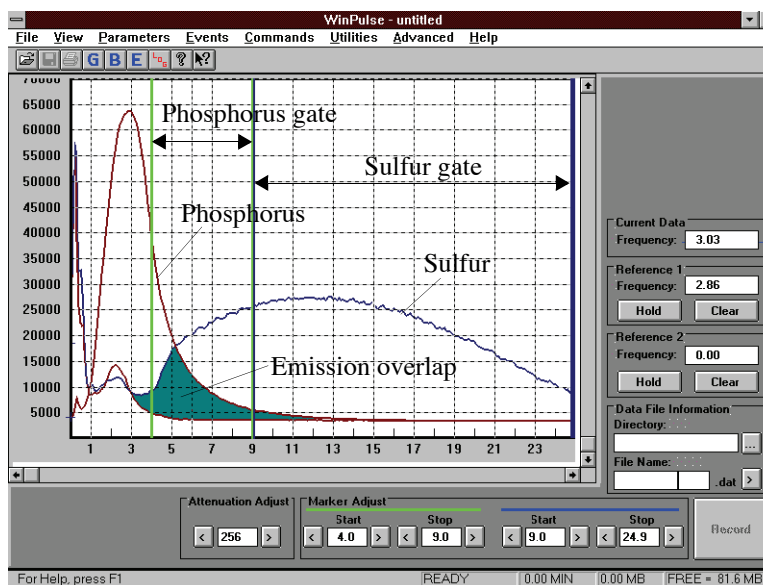
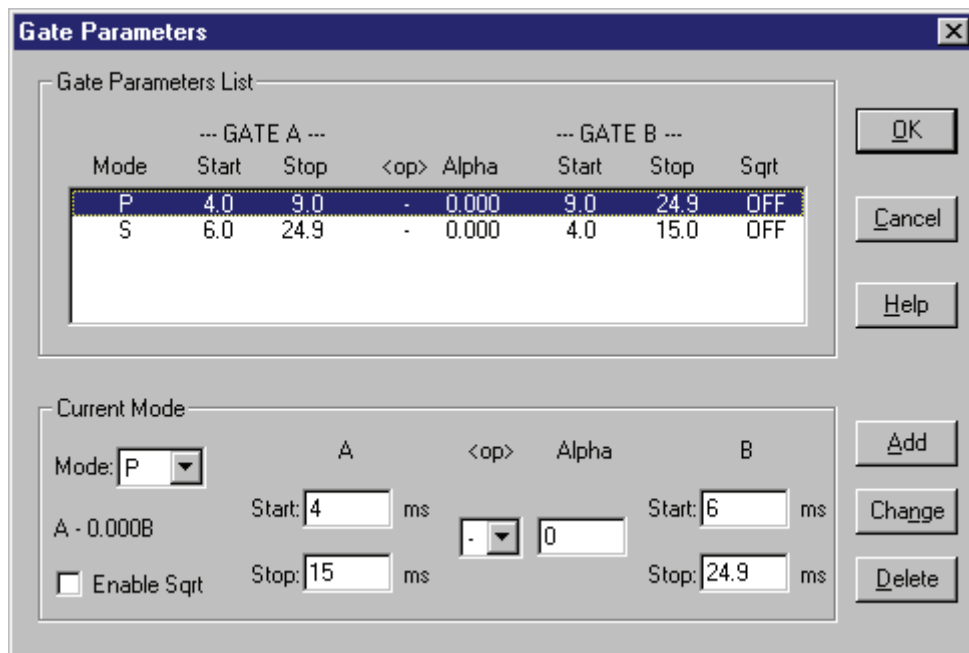
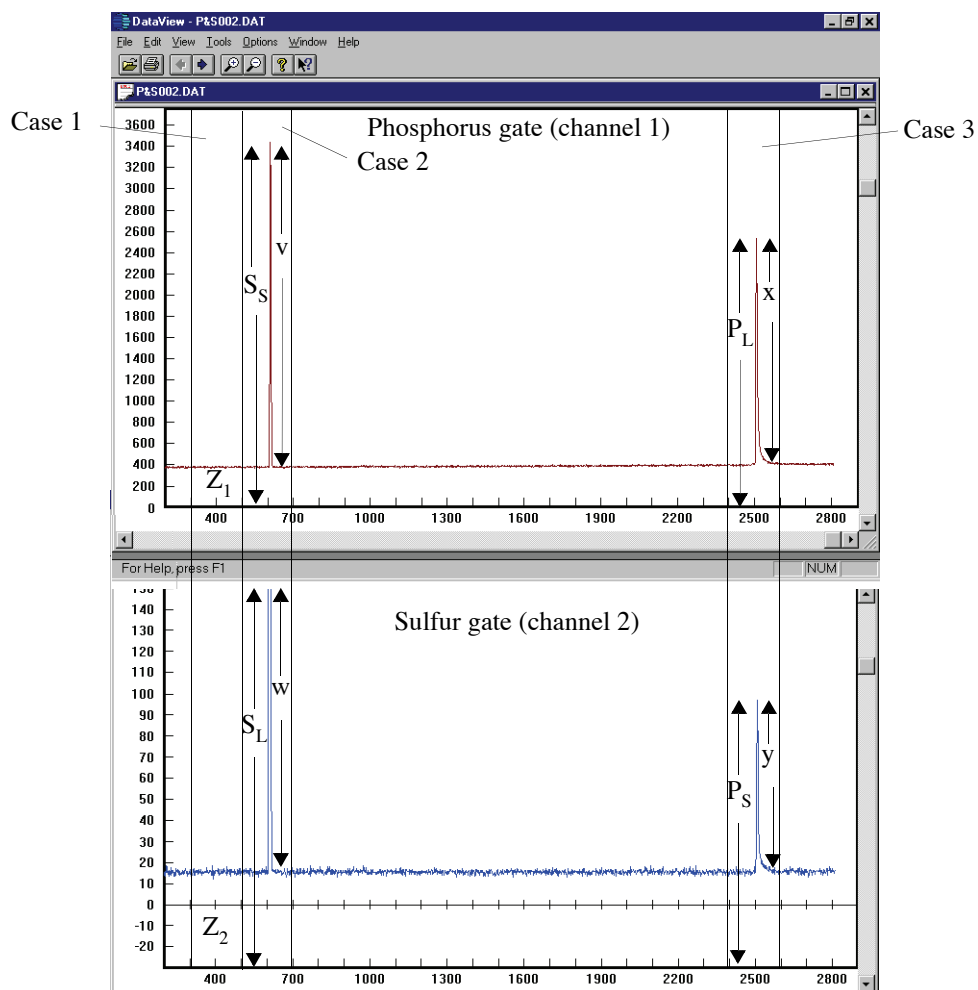

Figure 13.1. Phosphorus and sulfur emissions
Figure 13.2. Gate parameters window showing gate settings for phosphorus (P) and sulfur (S)
Figure 13.3. Chromatograms from channel 1 (P gate) and channel 2 (S gate) using a TBT/THT standard
To avoid confusion, phosphorus and sulfur are used in the following example to demonstrate how to increase selectivity between two species using WinPulse software's dual gate capability. The gates used to differentiate the phosphorus and sulfur response modes are referred to as gate P and gate S, respectively. The phosphorus and sulfur chemiluminescent time domains and the gate P and gate S settings are shown in Figure 13.1. Note that gate P and gate S are distinguished by the two colors (blue and green) of the individual markers.
As seen in Figure 13.2, WinPulse lets the operator specify two gates, A and B, for each mode within the Gate Parameters screen, enhancing PFPD selectivity for two (or more) species with partially overlapping emission-time profiles. To employ this option, gate A must incorporate a substantial segment of the first species' chemiluminescent time domain that does not significantly overlap with the time domain of species two. Conversely, gate B must include a substantial segment of the second species' time domain that does not significantly overlap with the time domain of species one. For example, maximize selectivity for phosphorus when gate A in the phosphorus mode is set to incorporate as much of the phosphorus chemiluminescent time domain as possible while at the same time minimizing the carbon or sulfur chemiluminescent time domain. (In Figure 13.1, the phosphorus gate is set from four to nine milliseconds, which eliminates most of the carbon response and the back end of the sulfur emission.)
To use the dual gate technique to eliminate interference between two species, set reciprocal gate assignments in the WinPulse Gate Parameters screen. Assign gate A to the species of interest and gate B to the interfering species. For example, specify gate A start and stop times for the phosphorus mode to optimize phosphorus response (4–9 ms), while gate A start and stop times for the sulfur mode are set to optimize the sulfur response (9–24.9 ms). Conversely, gate B in each mode specifies the optimal gate settings for the interfering species (i.e., sulfur in the phosphorus mode and phosphorus in the sulfur mode). Reasonable gate A start and stop times for phosphorus and sulfur are shown in Figure 13.2.
The PFPD provides two separate analog signal output channels to assign the phosphorus mode to channel 1 and the sulfur mode to channel 2. When setting the Alpha value in each mode to zero (Figure 13.2), channel 1 provides the output in the phosphorus mode (i.e., gate P output), and channel 2 provides the output in the sulfur mode (i.e., gate S output). Thus, the output signals from phosphorus and sulfur in channels 1 and 2 are directly proportional to the concentration of each species in the combusted analyte and the average emission coefficient of each species within gate P and gate S, respectively.
Figure 13.3 shows channels 1 and 2 chromatograms derived using the Figure 13.2 gate parameter values together with a pesticide test standard containing tributyl phosphate (TBP) and tetrahydrothiophene (THT). Since the Alpha values are set to zero in this example, the PFPD's interheteroatom selectivity is not optimized using dual gate enhancements.
The first (left) peak in each chromatogram in Figure 13.3 represents the compound with only sulfur (i.e., THT, which contains no phosphorus). A sulfur peak appears in the phosphorus mode because the phosphorus gate (gate P, which is output in channel 1) contains part of the overlap between the phosphorus and sulfur emission lifetimes (shaded area in Figure 13.1). Similarly, the phosphorus peak appears in the sulfur mode because the sulfur gate (gate S, which is output in channel 2) also partly includes the overlap between the phosphorus and sulfur emission lifetimes.
1. Specify the phosphorus and sulfur mode in the WinPulse Gate Parameters screen shown in Figure 13.2. Set the Alpha value for each mode to zero.
3. Ensure a suitable filter for detecting the species of interest is installed in the PMT assembly. For example, the chromatogram shown in Figure 13.3 was obtained using the GG 495 filter to enhance selectivity for phosphorus, which was of low concentration relative to sulfur in the TBP/THT test standard. See Chapter 11, “Photomultiplier Tube and Filter Configurations for Various Element Detection” on page 129 for other filters.
4. Configure the GC for a test run to analyze a suitable test standard containing both phosphorus and sulfur. Ensure each compound incorporated in the test standard contains only one of the heteroatoms of interest. Also, heteroatom concentrations in the test standard compounds should be similar to the anticipated concentrations of these species in the substances analyzed. If this is not the case, adjust estimated Alpha values to adequately subtract the chemiluminescence from interfering species. Figure 13.3 shows the chromatograms obtained from the two output channels using a TBP/THT test standard.
6. Using the two chromatograms, select three segments that represent the following three cases (Figure 13.3).
- Case 2: Small sulfur peak (S_S) in channel 1 chromatogram with corresponding large sulfur peak (S_L) in channel 2 chromatogram. Measure the heights of the two peaks above zero (Figure 13.3).
- Case 3: Large phosphorus peak (P_L) in channel 1 chromatogram with corresponding small phosphorus peak (P_S) in channel 2 chromatogram. Measure the heights of the two peaks above zero (Figure 13.3).
The TBP/THT standard generates the two chromatograms shown in Figure 13.3, producing the following results: